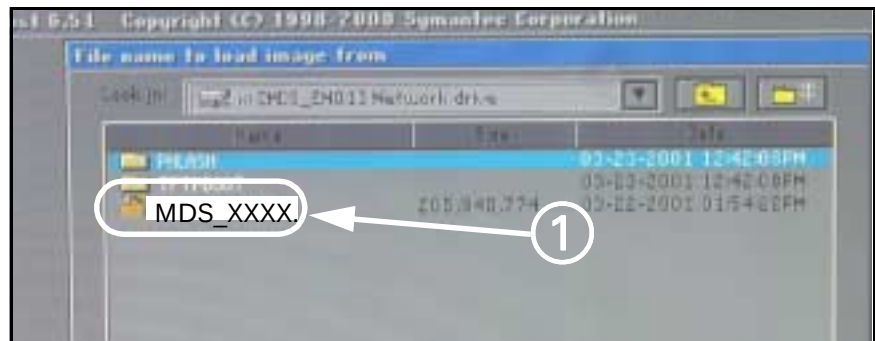

Figure 4-2 Image Folder (Image file)
- At "File name to load image from" window, click on *MDS_XXXX.GHO* (see ① in Figure 4-2).